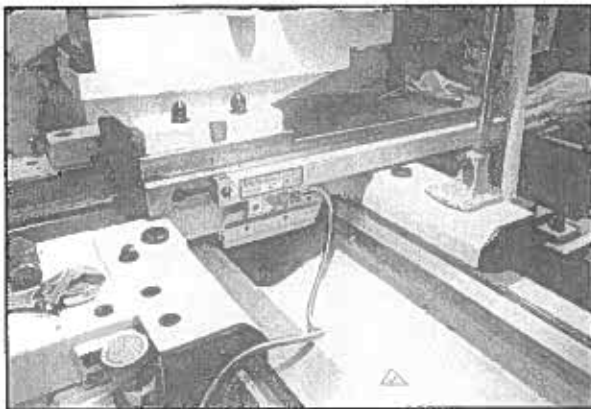

Figure 24. Flat surface for scale mounting.
2. Select a flat surface that is suitable and clear of the travelling parts of the lathe and mount the cross side scale, shown in **Figure 24**.